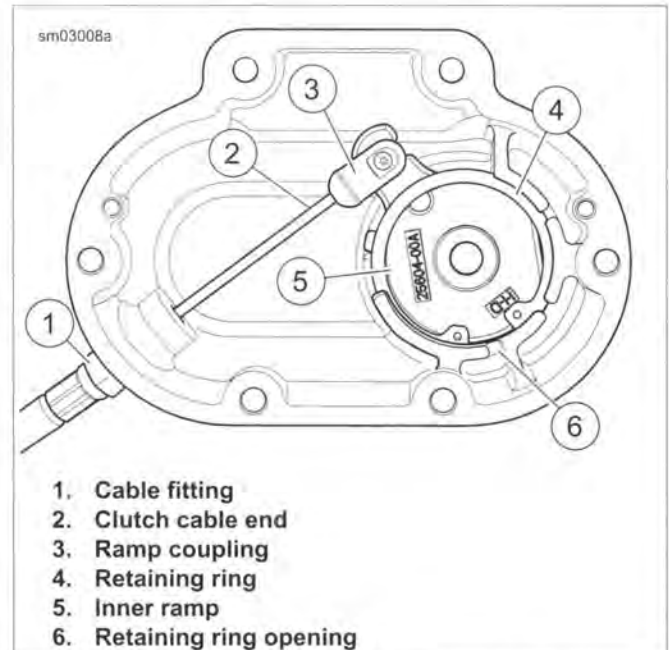
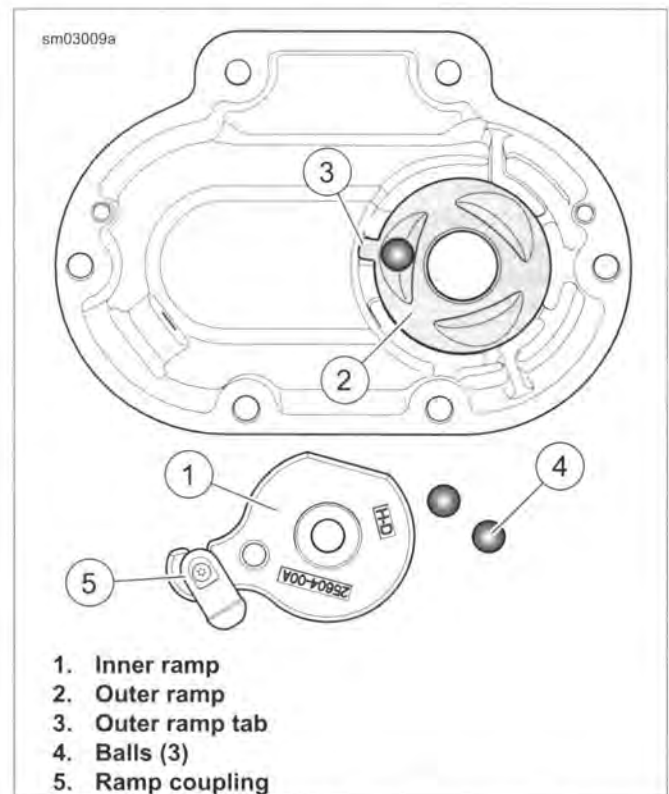

Figure 6-5. Clutch Cable Connection
Figure 6-6. Coupling and Ramp Assembly
6. See Figure 6-5. Remove retaining ring (4). Lift inner ramp (5) and ramp coupling (3) out of clutch release cover. Disconnect clutch cable end (2) from the ramp coupling (3).
7. Remove coupling (3) from inner ramp.
8. See Figure 6-6. Remove balls (4) and outer ramp (2).
1. See Figure 6-5. Apply a drop of LOCTITE 243 MEDIUM STRENGTH THREADLOCKER AND SEALANT (blue) to the clutch cable fitting (1). Install in clutch release cover. Leave fasteners loose.
4. See Figure 6-5. Connect cable end to ramp coupling (3). Install coupling on inner ramp (5). Place inner ramp and coupling in position in clutch release cover.